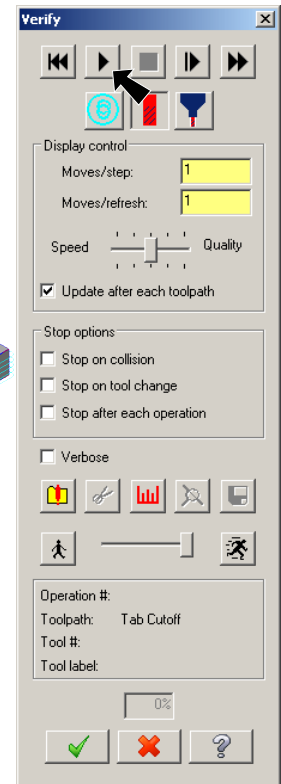

Fig. 47
Step 4. Click the **Play**  in the Verify dialog box to start the machining, Fig. 47.